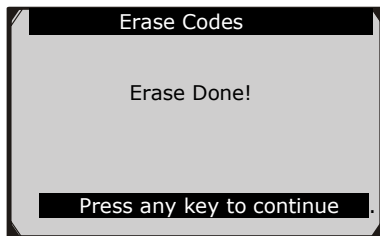

Figure 5.8
- If the codes are cleared successfully, an “Erase Done!” confirmation message shows on the display.(Figure 5.8)